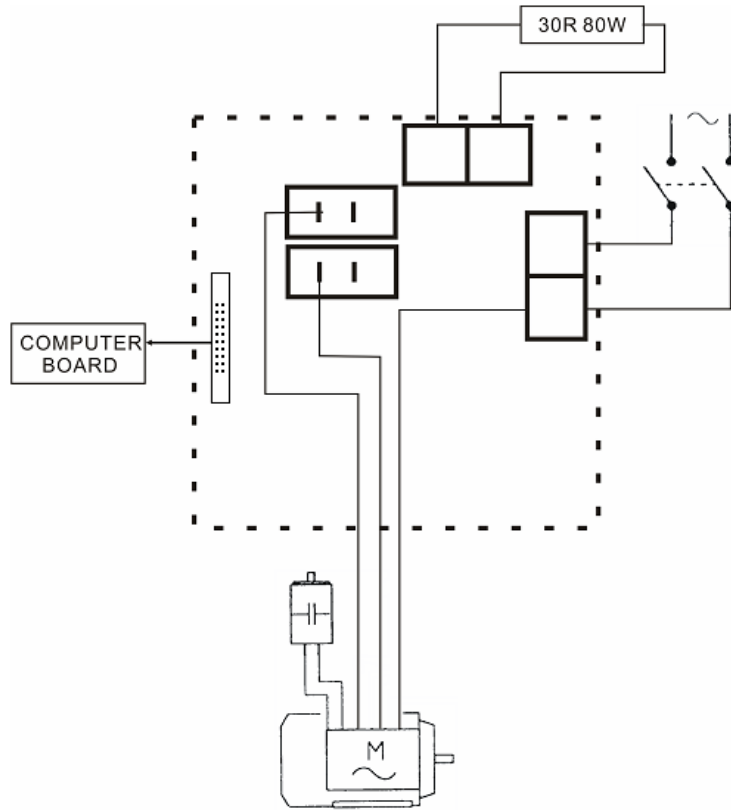

figure17-4
4、 Press “+” ,as shown in figure17-4